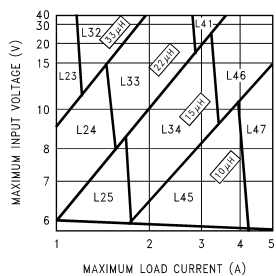
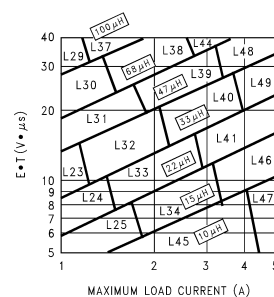

Figure 21. LM2677-3.3
Figure 24. LM2677-ADJ
Step 3: Determine the inductor required by using one of the four nomographs, Figure 21 through Figure 24. Inductor Manufacturer Part Numbers provides a specific manufacturer and part number for the inductor.
Step 5: Determine an input capacitor from Table 7 for fixed output voltage applications. Use Table 3 to find the specific capacitor type. For adjustable output circuits select a capacitor from Table 3 with a sufficient working voltage (WV) rating greater than $V_{in\ max}$, and an rms current rating greater than one-half the maximum load current (2 or more capacitors in parallel may be required).
Step 3: Use the nomograph for the 3.3V device, Figure 21. The intersection of the 16V horizontal line ($V_{in\ max}$) and the 2.5A vertical line ($I_{load\ max}$) indicates that L33, a 22 μH inductor, is required.
Step 3: To use the nomograph for the adjustable device, Figure 24, requires a calculation of the inductor Volt•microsecond constant (E•T expressed in V•μs) from the following formula:
Using Figure 24, the intersection of 27V•μs horizontally and the 2A vertical line (I_{load} max) indicates that L38 , a 68μH inductor, should be used.
Important Note: When using the adjustable device in low voltage applications (less than 3V output), if the nomograph, Figure 24, selects an inductance of 22μH or less, Table 10 does not provide an output capacitor solution. With these conditions the number of output capacitors required for stable operation becomes impractical. It is recommended to use either a 33μH or 47μH inductor and the output capacitors from Table 10.